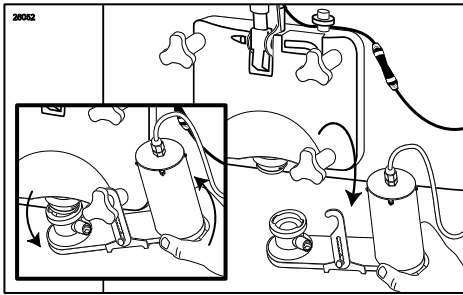

Figure 25
- Lift the Suspension Bracket with the Injector Assembly from the freezer door knob. (See Figure 25.)